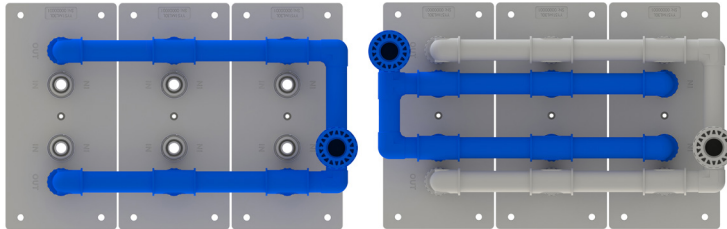

Figure 11. Assembly order for parallel plumbing configuration, left to right.
- e. Install the plumbing components starting with the outer most pipe assembly, Figures 11 and 12.